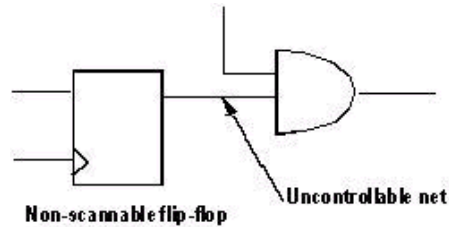
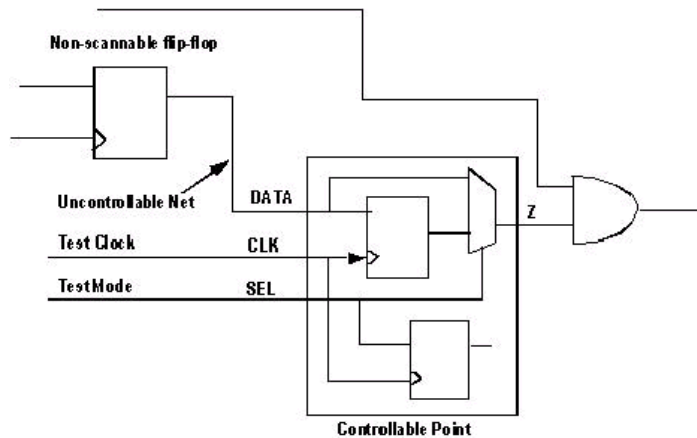

FIGURE 95. Uncontrollable Net
FIGURE 96. Still an Controllable Net
- For uncontrollable nets (as shown in Figure 95), a control point is inserted (the module structure is shown in Figure 96). The module renders the logic in the fan-out cone of the control point controllable. You cannot completely depend on the violation of the TA_06 rule for